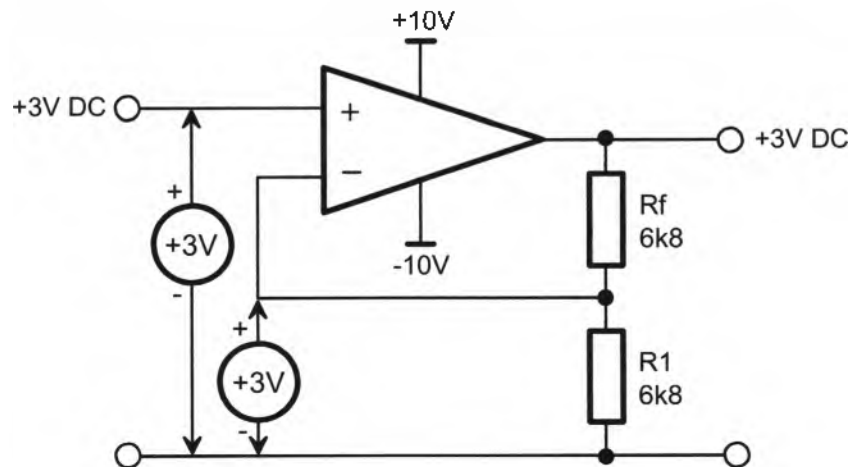

Figure 6
24. Figure 6 below shows a faulty non-inverting amplifier with input and output voltages shown together with the voltages on the op amp's non-inverting and inverting pins. State what component in the circuit is faulty and what's wrong with it.